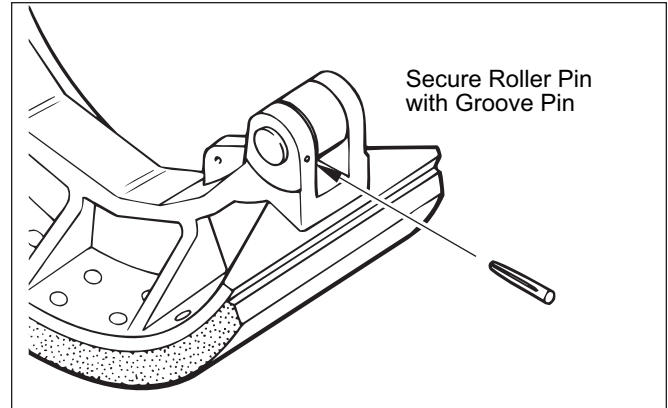

Figure 75. Groove Pin Installation
3. Lubricate roller inside diameter (see Step 2), prior to installation. Assemble roller and pin to shoe and secure with groove pin. Stake casting area around groove pin. Refer to Figure 75.